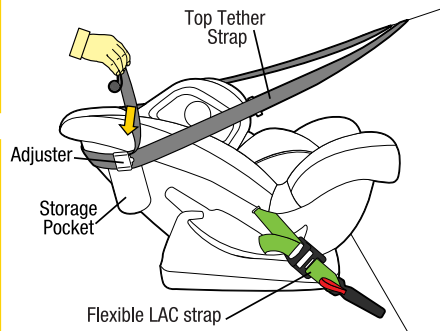

Figure 9
Step 8: Store any excess webbing from the top tether strap, in the storage pocket provided on the restraint (refer Figure 9).